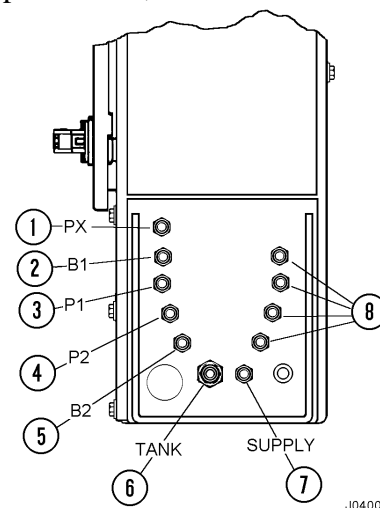

Figure 8. Brake Cabinet Port Identification (Viewed from End of Cabinet)
4. Refer to Figure 8 for pressure test diagnostic coupler locations in the hydraulic components cabinet. Install a 350 kg/cm2 (5000 psi) pressure gauge at each of the following: